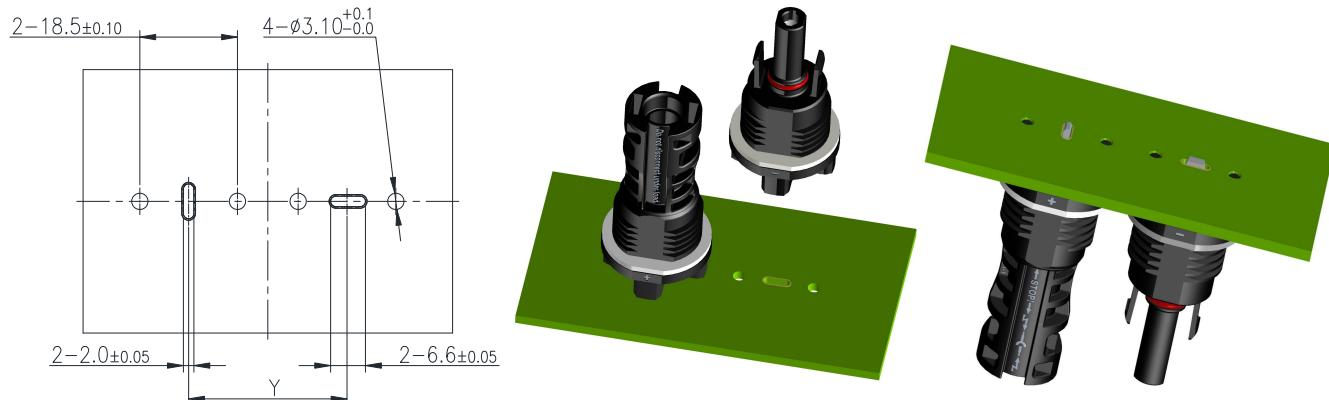

Figure 1
◆ PCB 钻孔的建议尺寸及安装如图 1，所有钻孔边缘的毛刺需要清除。建议无论水平或垂直结构，间距值 (Y) 至少要有 30mm，建议 PCB 板厚 $2.5 \pm 0.1\text{mm}$ ；由焊接工艺将插座固定在 PCB 板孔内。
Drill the panel wall. Recommended bore dimension see fig.1, all burrs must be removed from the edges of all bores. For both horizontal and vertical mounting, a spacing (Y) of at least 30mm is recommended; the socket is fixed in the holes of the PCB board by the welding process.